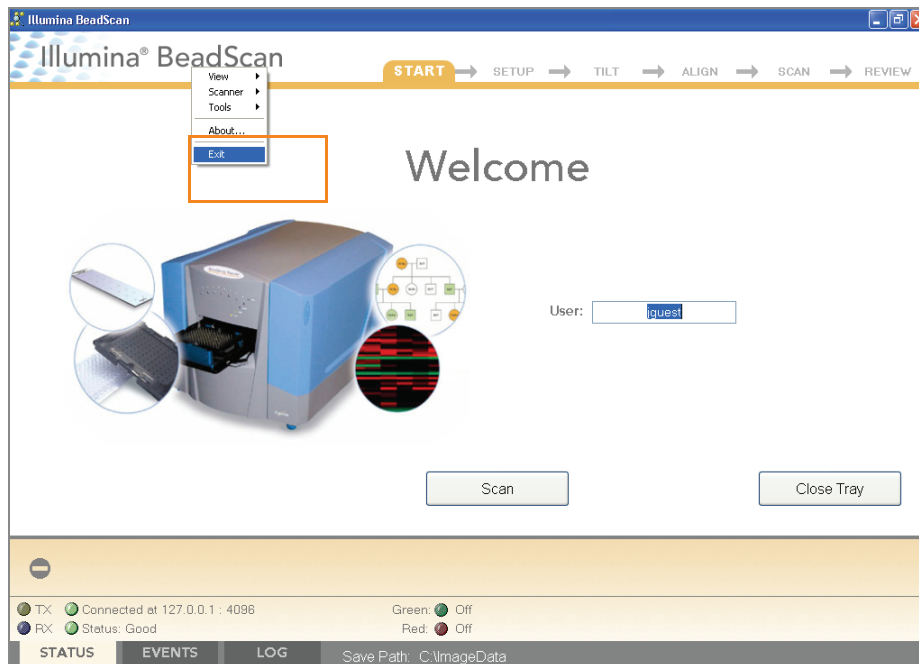

Figure 97 Exit the BeadArray Reader Software
- d. Shut down the BeadArray Reader BeadScan software. To exit, right-click near the Illumina logo and click **Exit** (Figure 97).